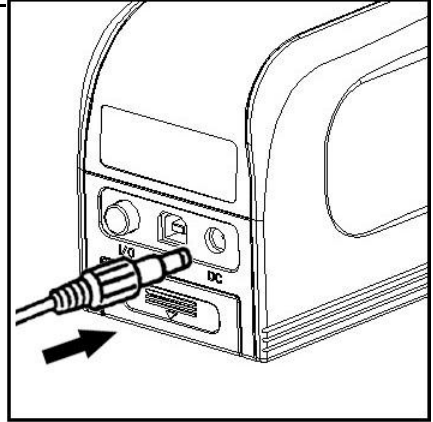

Figure 8. Power Adapter connection
1. First check and confirm if the switch is on Out (O).
2. Plug the input cable of the power adapter as shown on Figure 8 into the DC connector.